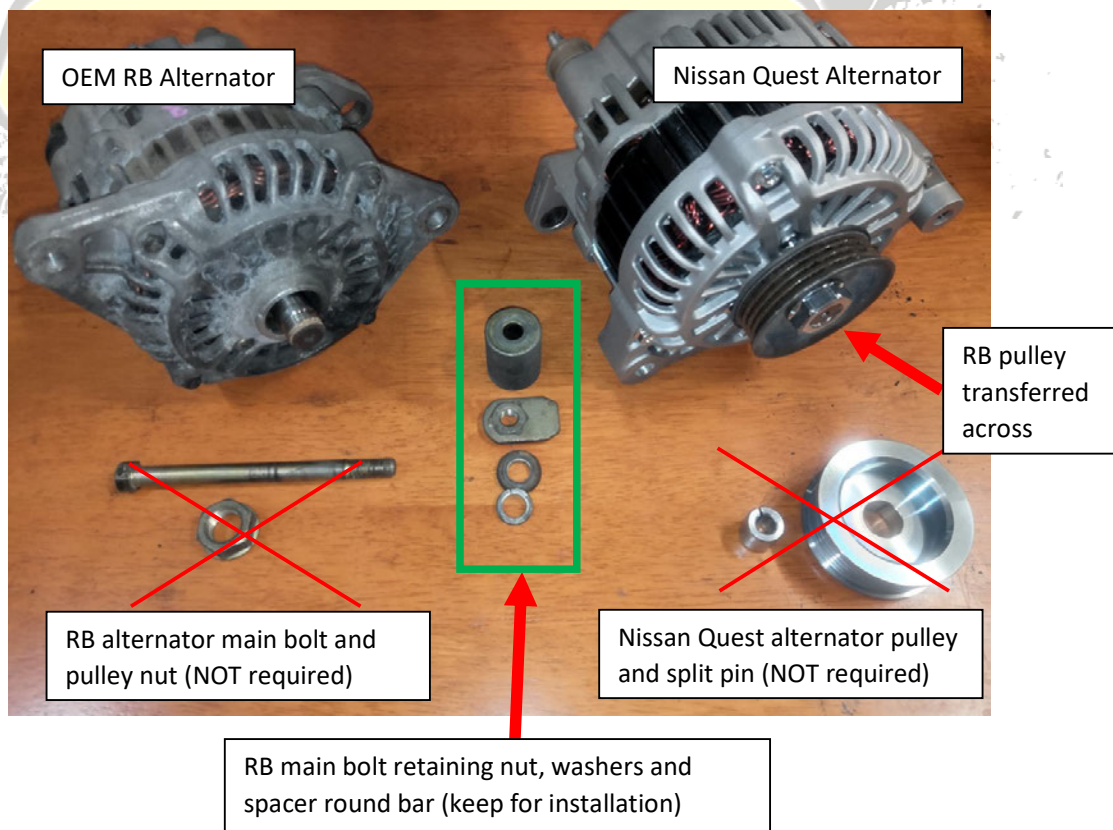

Figure 1 – Component Layout
3. Transfer the pulley from your OEM RB alternator to the Nissan Quest unit (figure 1).
6. Mount the Nissan Quest alternator to your engine, re-use the components shown in figure 1.